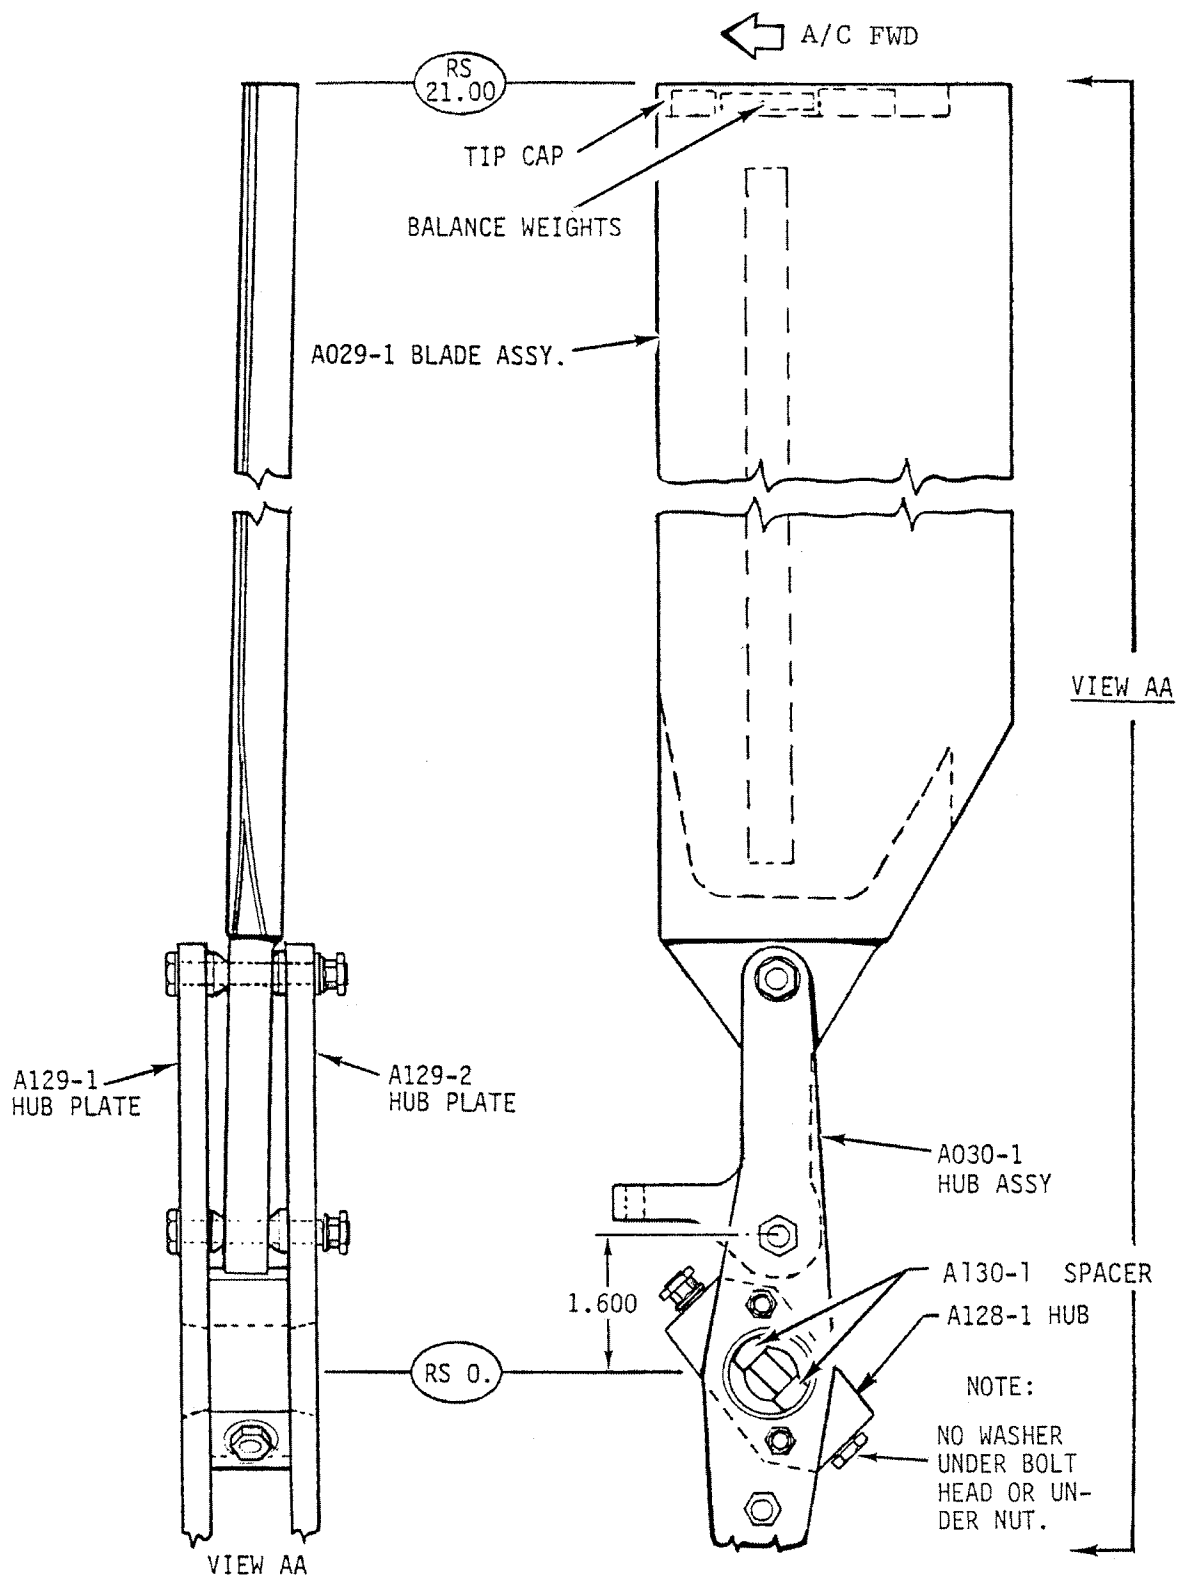

FIGURE 9-12 TAIL ROTOR ASSEMBLY (SPHERICAL TEETER BEARINGS)
3. Place A130-1 spacers inside hub and install hub assembly on tail rotor gearbox output shaft per Figure 9-12.
3. Install tail rotor teeter hinge bolt, washers, and nut. Tighten nut until elastomeric bearing metal spacers contact output shaft (See Figure 9-12).